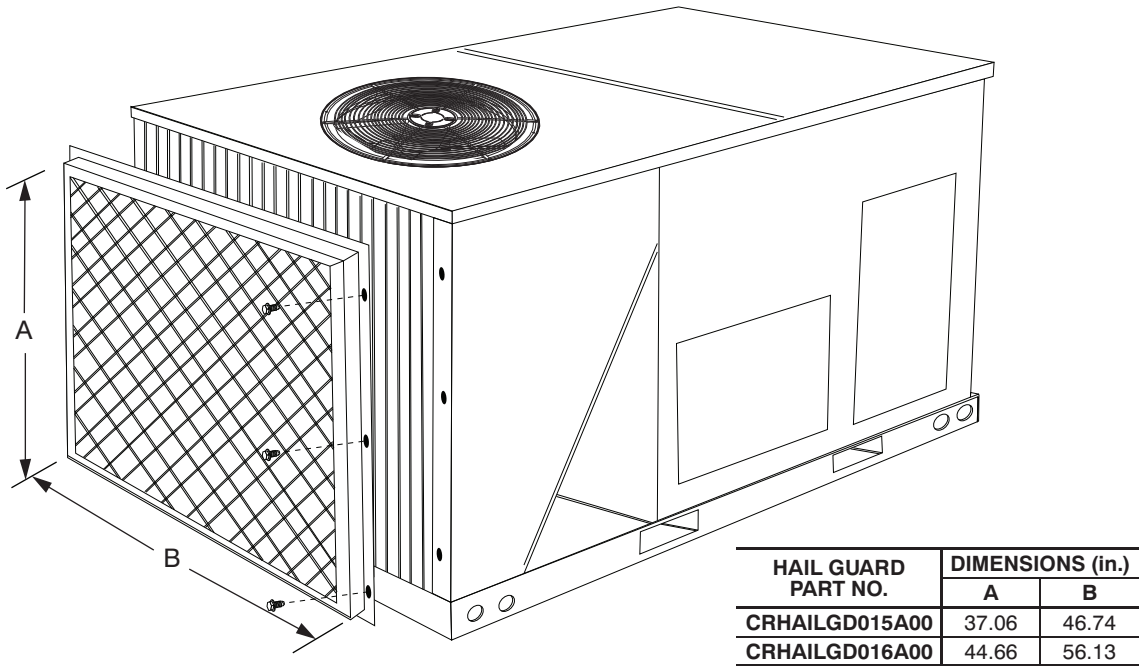

Fig. 1 - Hail Guard Installation
2. Remove the screws from around the perimeter of the condenser coil. Save screws. (See Fig. 1.)
4. With the hail guard in place, re-install the screws removed from Step 2 to secure the hail guard to the unit. (See Fig. 1.)